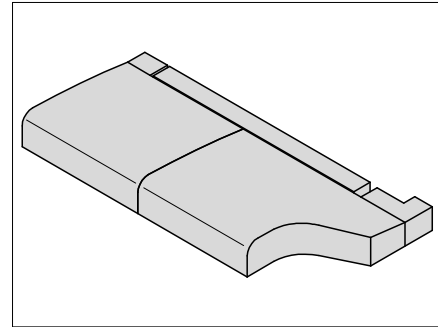
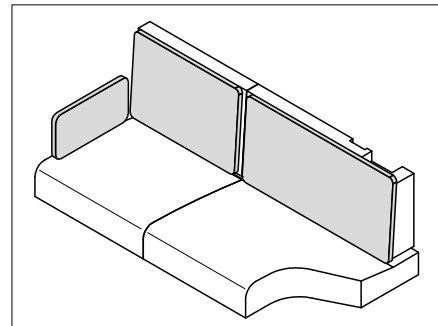

Fig. 211 Positioning seat cushions
Fig. 213 Cushion for back cushions
- Lay on the seat, backrest and additional cushions as shown in Fig. 211 to Fig. 213.